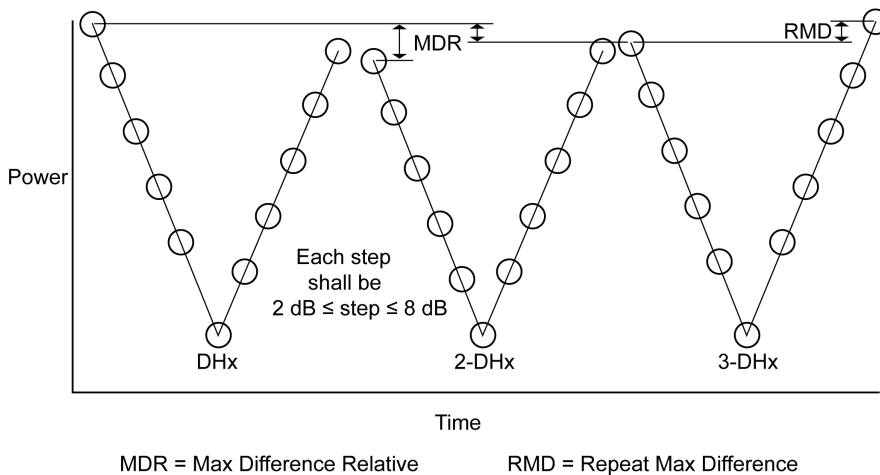

Figure 7-9. Enhanced Power Control Test
- Rpt Mx diff:** Displays the maximum power level at the start of a given modulation measurement cycle relative to the maximum power at the end of the cycle. Shown as “RMD” in figure 7-9.
- Mx diff relative:** Displays the maximum difference (at the same step position) in the GFSK header power for DHx to 2-DHx, and DHx to 3-DHx packets. Shown as “MDR” in figure 7-9.